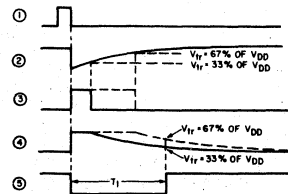

Fig. 11 - Waveforms showing the cancelling effects of transfer-voltage variations of the two COS/MOS inverters when two equal time constants are used.
The advantage of using two inverters fabricated on the same chip is that they have similar transfer voltages. When two equal RC time constants are used ( $R_1C_1$  equals  $R_2C_2$ ), the effects of variations in transfer voltage from device to device are effectively cancelled out, as shown in Fig. 11. By use of Eq.(1) derived for the astable oscillator, it can be shown that the maximum variation in the time period T is less than 9 per cent. The total time for one period  $T_1$  is approximately 1.4 times the  $R_1C_1$  time constant.